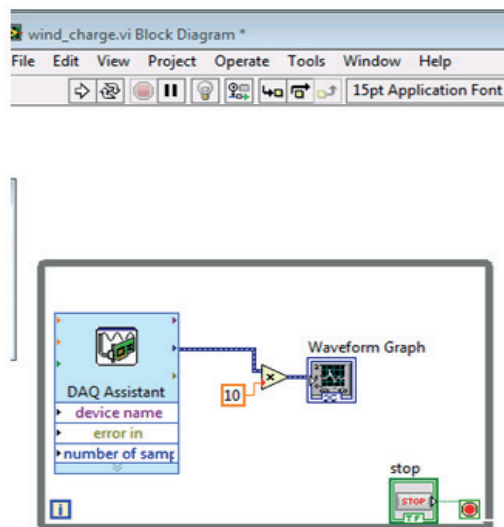

Figure-3
- 6) Set the sample circuit on the LabView Block Diagram window as seen in Figure-3.